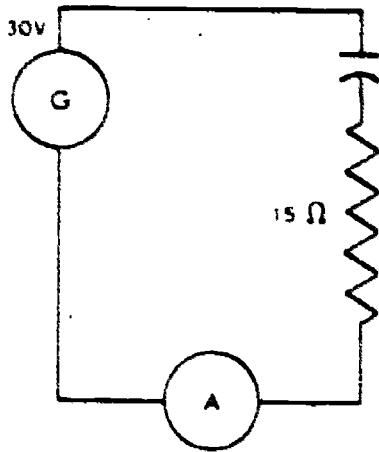

Figure 5
15. The ammeter will indicate \_\_\_\_\_ amps for the circuit shown below (figure 5).